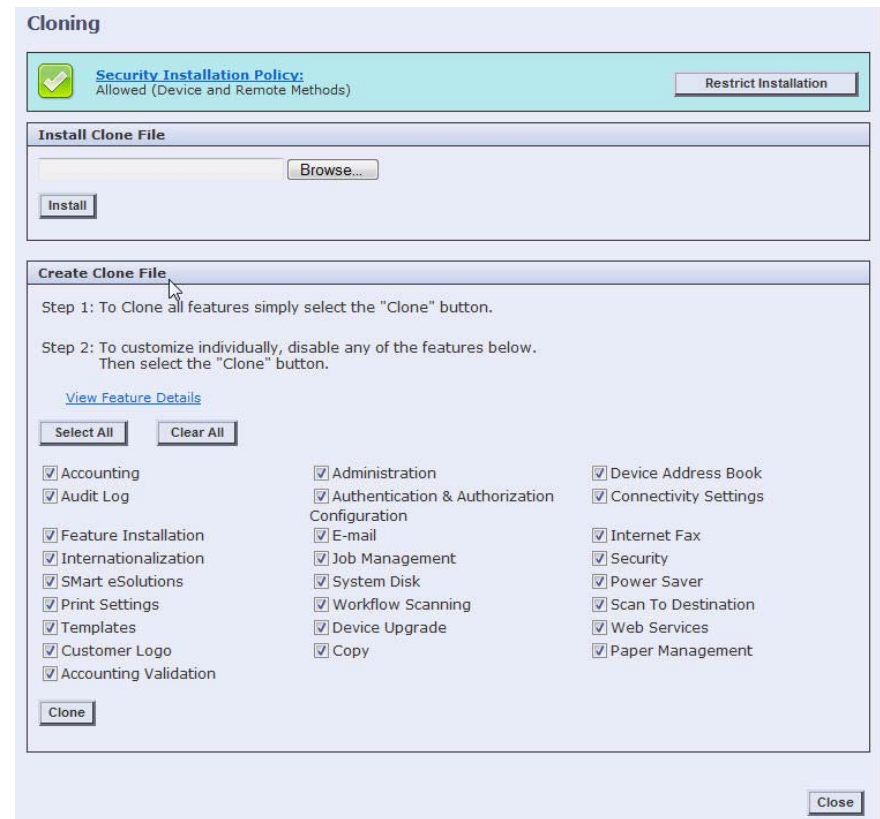

Figure 1 Cloning interface
1. When the **Centreware® Internet Services** window opens, select the **Properties** Tab. Click on the **General Setup** link, then the **Cloning** link as shown in Figure 1.
1. Select the **Clone** button under the **View Feature Details** link Figure 1.